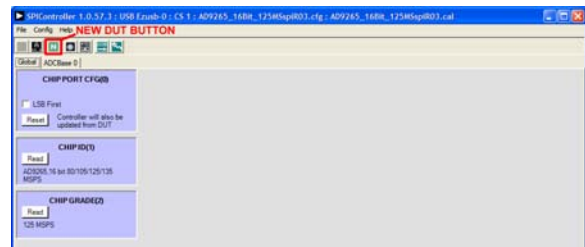

Figure 9. SPIController, New DUT Button
2. Click the **New DUT** button in the **SPIController** window (see Figure 9).